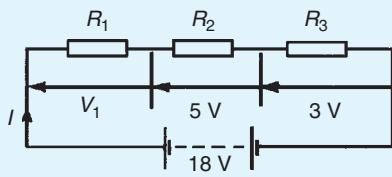

Figure 5.9
2. For the circuit shown in Fig. 5.9, determine the value of  $V_1$ . If the total circuit resistance is 36 Ω determine the supply current and the value of resistors  $R_1$ ,  $R_2$  and  $R_3$